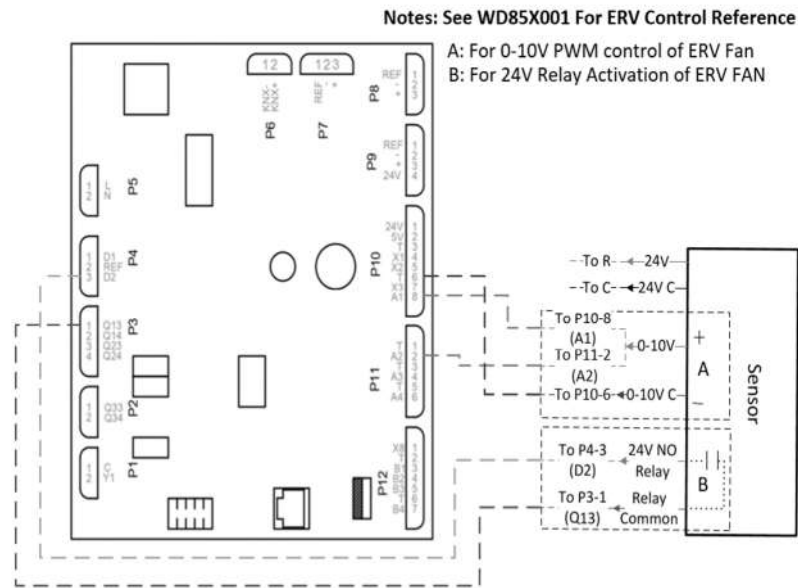

Figure 29 – Humidity/CO2 Sensor
3. For sensors with 0-10V PWM fan control use connection A shown in **Figure 29 – Humidity/CO2 Sensor**. For 24V relay activation of fans use the B connections. Insert sensor wires into specified terminals. **DO NOT REMOVE ANY EXISTING WIRES FROM ERV CONTROLLER**